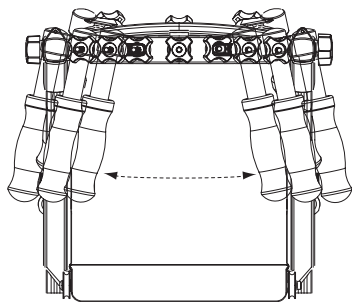

Fig. 21-1
- The handles can be adjusted wide or narrow (Fig. 21-1)